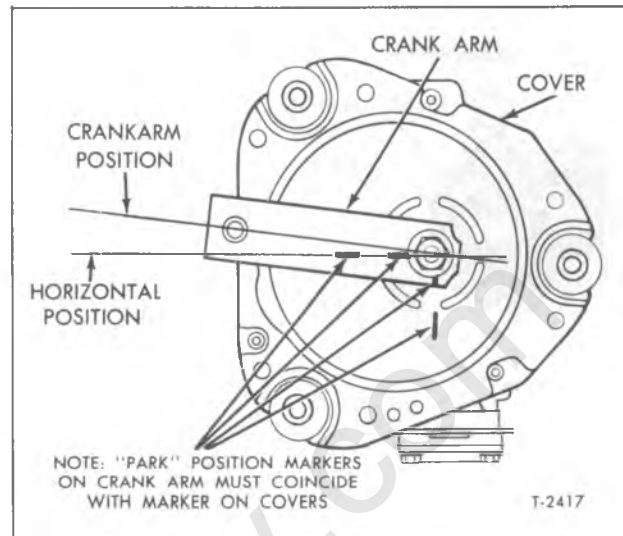

Figure 7—Crank Arm in "Park" Position (Typical)
IMPORTANT: Before locating the wiper arms on transmission shafts, make sure wiper motor was stopped in the "PARK" position (fig. 7). Operate motor, then turn switch off and allow it to stop in "PARK" position. If motor is not in "PARK" position and arms are installed, the arm travel
4. Before installing wiper arms, operate wiper motor momentarily, then turn it off which should rotate pivot shaft to "PARK" position (fig. 7).